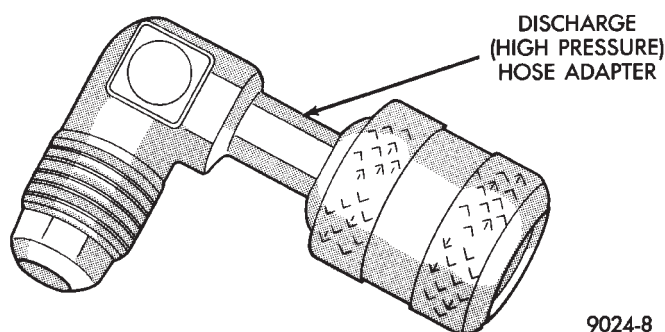

Fig. 5 Discharge Hose Adapter
(1) Remove the service port cap from the 1/4 in. service port.
(2) Check all valves on the equipment being used to verify they are closed.
(3) Inspect the hose gasket in the service port connector at the end of the (RED) hose. If the gasket is flawed, replace it.
(4) Use a suitable (3/8 in. male to 1/4 in. female) adapter (Fig. 5), threaded securely into the end of the (RED) hose connector.